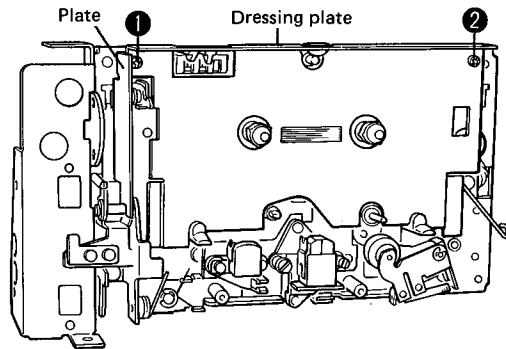

Fig. 9
2. Remove screws 1 and 2 in Fig. 9, then remove the dressing plate and plate.